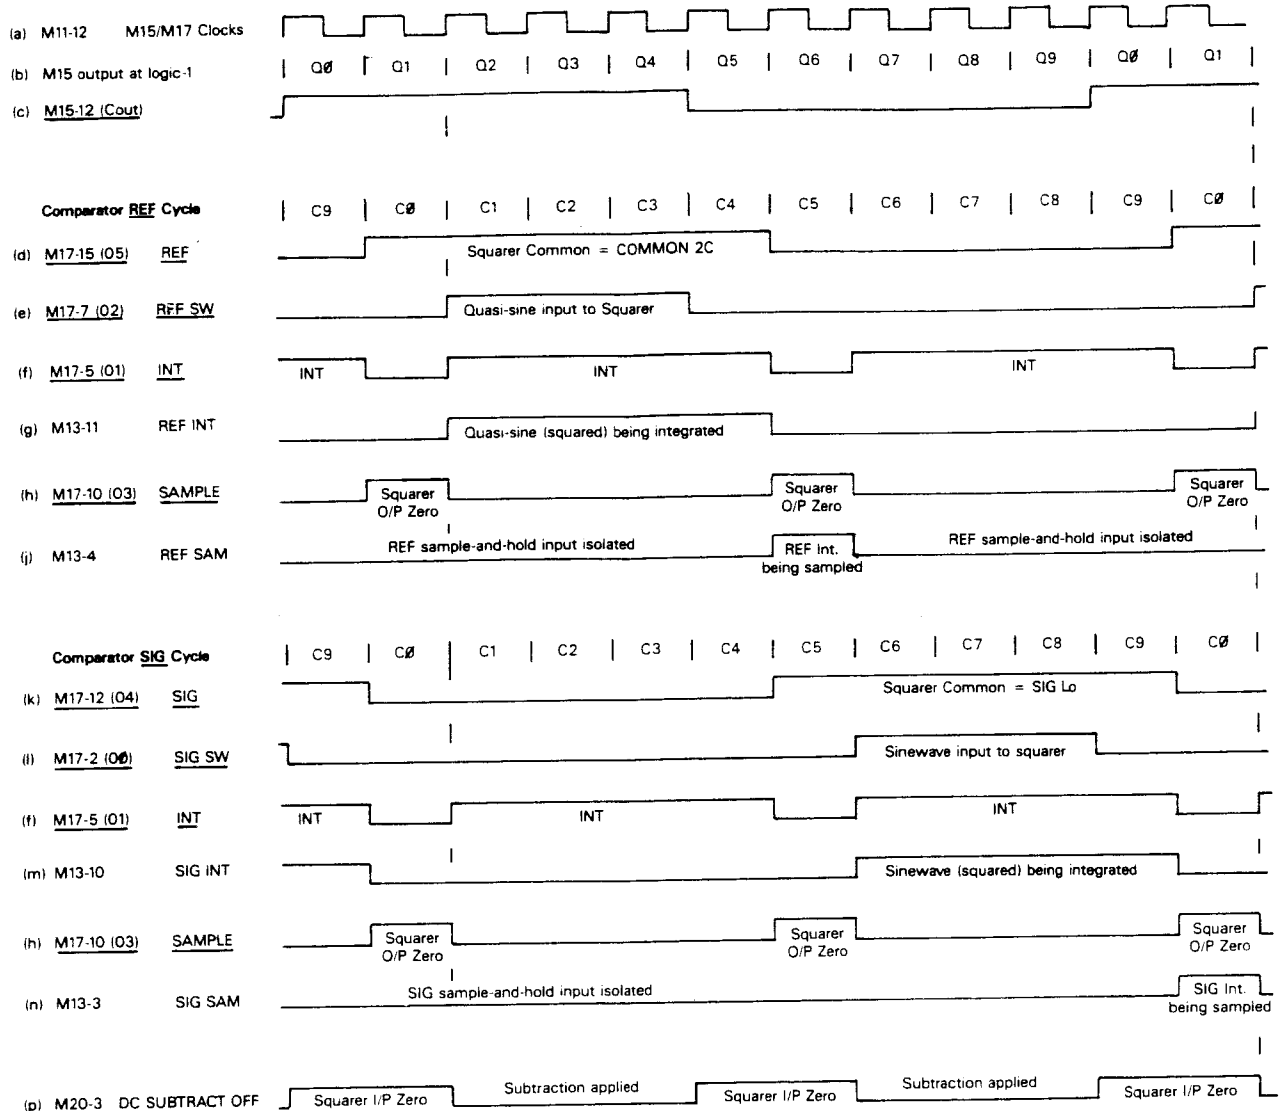

FIG. 9.13 COMPARATOR TIMING LOGIC
(Fig. 9.13)
The comparator timing waveforms for the sequence are illustrated in Fig. 9.13. To highlight the data delay, the main waveforms are grouped into two blocks: 'REF' and 'SIG', each headed by the states of the comparator cycle. Line (b) shows which of M15 (Q) outputs is at logic-1 during each of the states. It can be seen that the effects of M15 output states are delayed by 1 clock period, in the translation to comparator states.